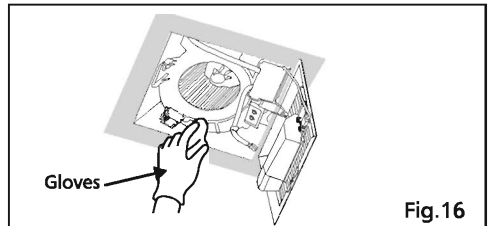

Fig. 16
5. Using a cloth dampened with kitchen detergent, remove any dirt from fan body. Wipe dry with clean cloth. (Fig. 16)